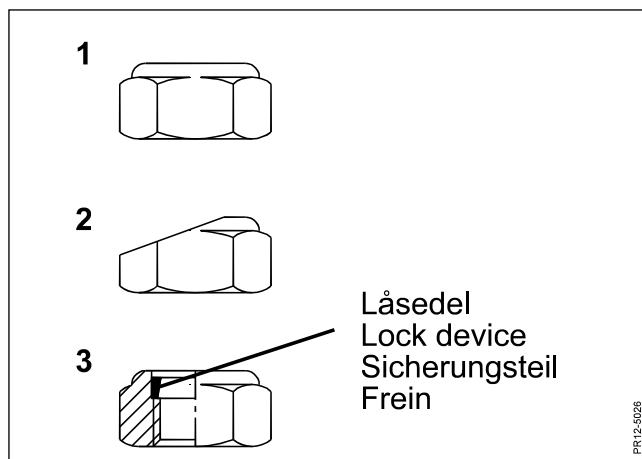

Fig. 5-5
- Fig. 5-5** The special nut must be replaced if: